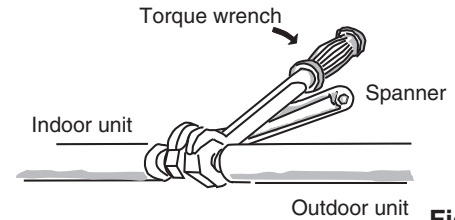

Fig. 5-6
- (2) To fasten the flare nuts, apply specified torque as at right:
- When removing the flare nuts from the tubing connections, or when tightening them after connecting the tubing, be sure to use 2 adjustable wrenches or spanners. (Fig. 5-6)